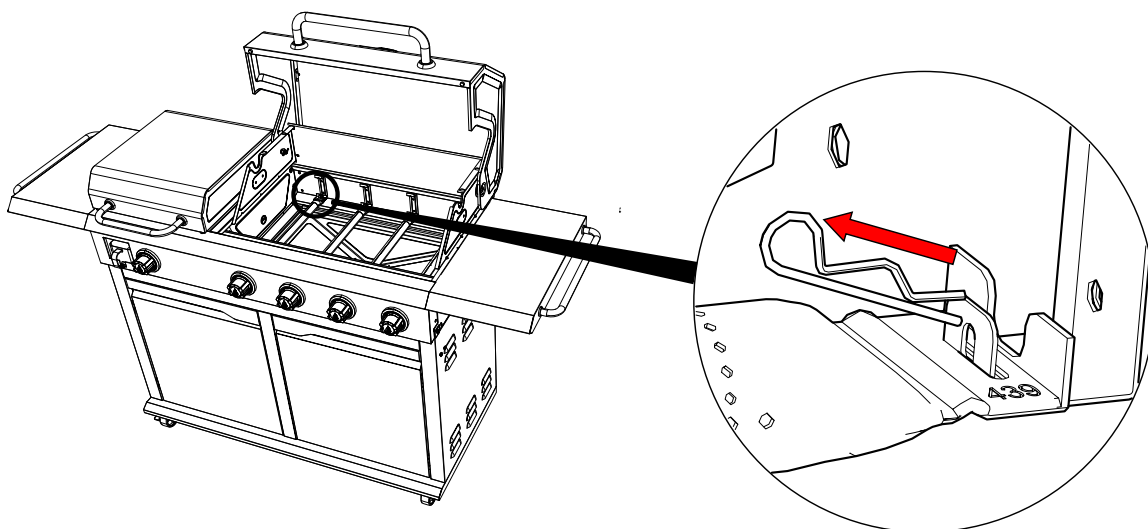

Figure 2
3. Remove hinge pin as shown in Figure 2.